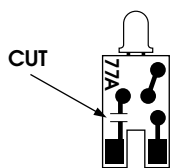
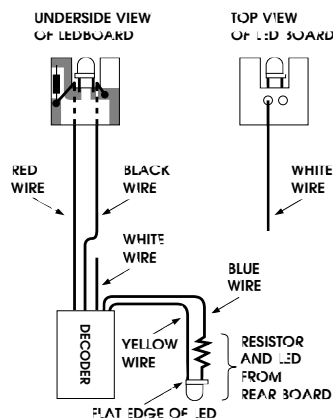
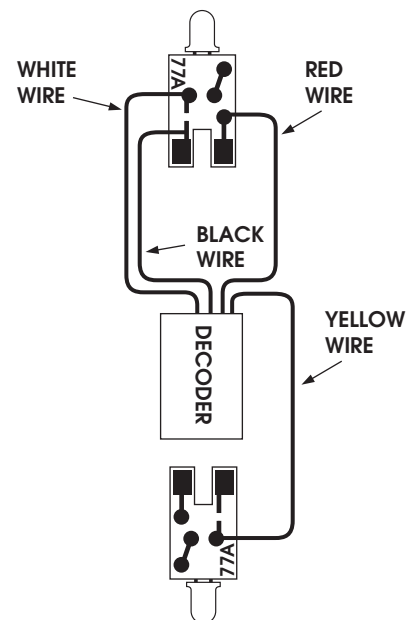

Fig. 1
Fig. 2
Fig. 3
- Lay the light boards out in front of you, parts side down as in Fig. 1. With a sharp hobby knife make a cut in the circuit trace as shown (Fig. 1). Attach the BLACK and RED wires to front board as shown (Fig. 2). Solder YELLOW wire to rear light board as shown in Fig 3.